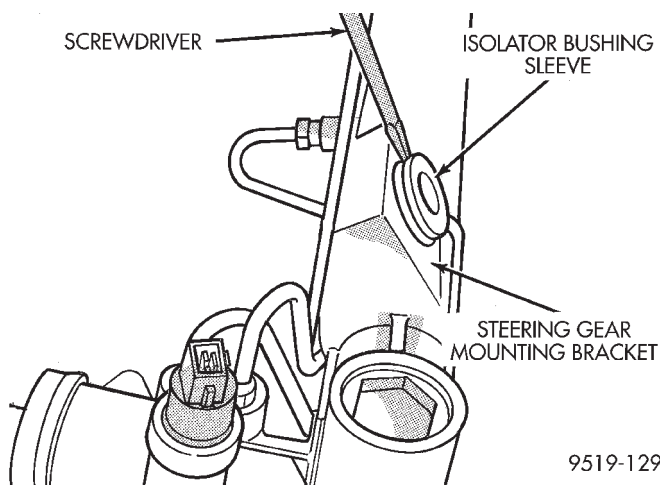

Fig. 24 Mounting Bolt Isolator Sleeve Removal
The steering gear mounting bolt isolators (Fig. 24) are a serviceable component of the steering gear assembly. Both isolator bushing are serviced using the same procedure listed below but only the rear mounting bushing is shown.
(1) Using a screwdriver, pry the sleeve out of the mounting bolt isolator (Fig. 24).